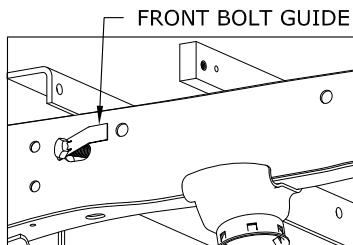
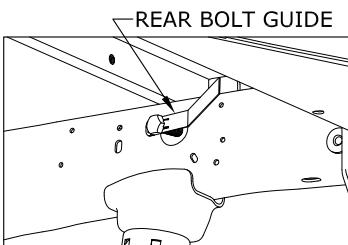

FIGURE C3: View from outside of Driver Side Frame, Bolt installation Step. 1
FIGURE C6: View from inside of Driver Side Frame, Bolt installation Step. 1
- Install the bolt guides.** Insert the front bolt guides (shorter ones) into the frame and guide the threaded end of the bolts out the holes as shown in figures C3 to C5. Insert the rear bolt guides through the large holes on the inside of the frame rails and guide the threaded end of the bolts out of the holes in the frame as shown in figures C6 TO C8.